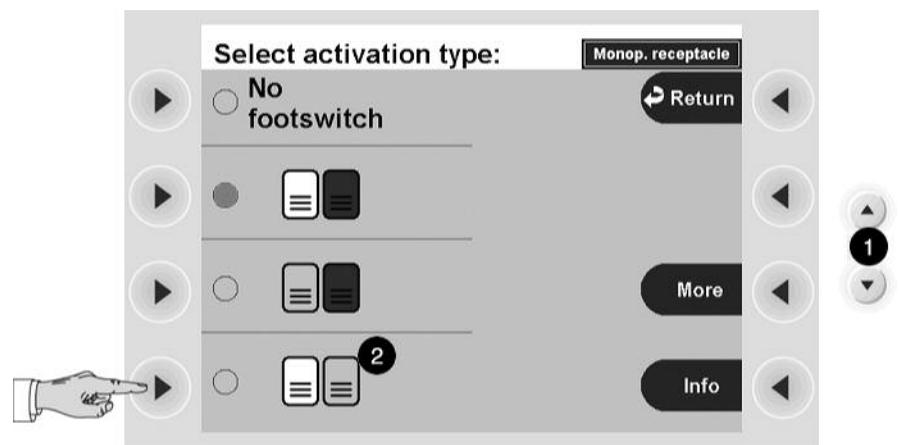
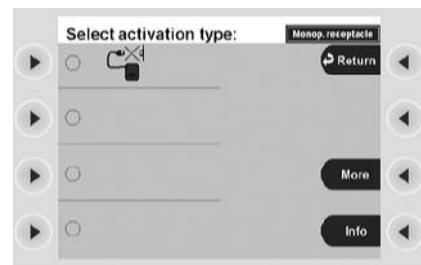

Fig. 4-16
Fig. 4-17
In the window Fig. 4-16 you will see a list of the possible footswitch allocations. Scroll with the Down button (1) to the next window Fig. 4-17. You can also use the Select button next to the "Other modes" menu item.